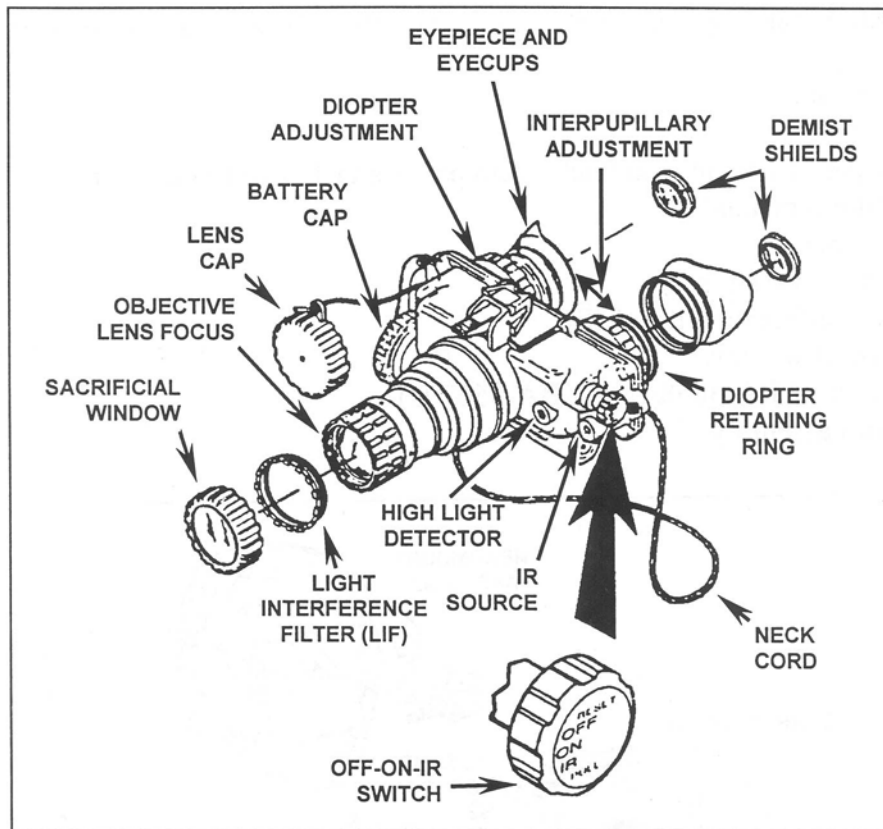

Figure 2. Night vision goggles assembly functional features and accessory items.
- b. Inspect the goggles assembly and components for serviceability (Figure 2).